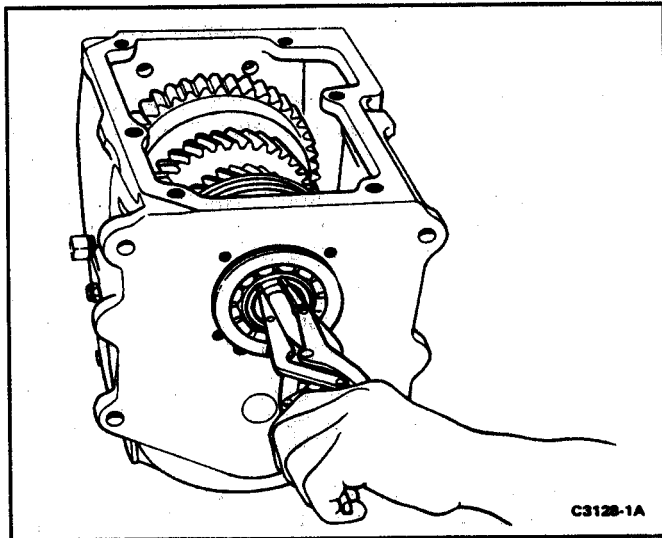

FIG. 7 Removing Input Shaft Bearing Snap Ring
8. Remove the input shaft bearing retainer. Remove the input shaft bearing snap ring from the input shaft and from the bearing, (Fig. 7).